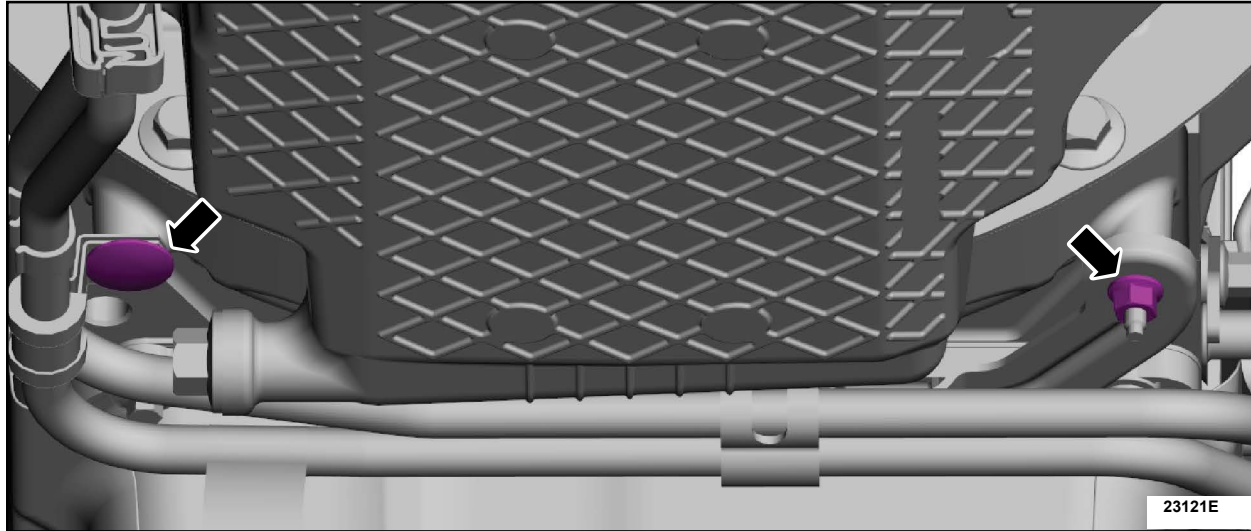

FIGURE 29
44. Install the transmission cooler tube bracket retainer and transmission cooler tube bracket nut. See Figure 29.